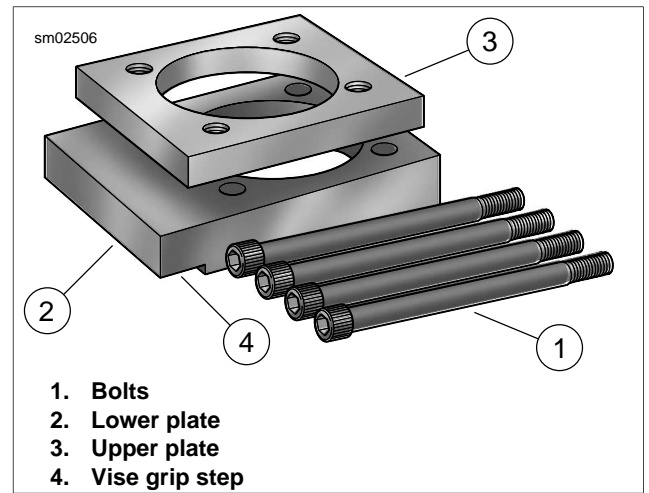

Figure 3-101. Cylinder Torque Plates (Part No. HD-42324-A)
6. See Figure 3-101. Check the machined surfaces for flatness using a feeler gauge and CYLINDER TORQUE PLATES (Part No. HD-42324-A) as follows:
- a. Lay gasket side of the upper torque plate (3) (without vise grip step) flat against the head gasket surface of the cylinder.
- e. Now turn the cylinder upside down and lay the seal side of the lower torque plate (2) (with vise grip step) flat against the o-ring seal surface. Repeat steps 6b and 6c above.